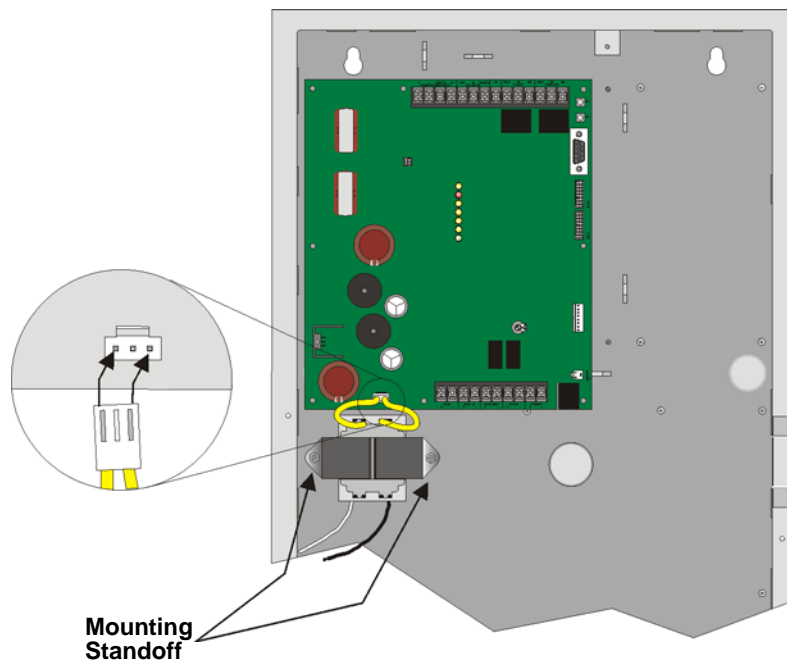

Figure 3-12 Transformer Mounting
3. Mount the transformer onto the cabinet standoffs with the supplied #6 nuts as shown in Figure 3-12.
- 5. Plug the transformer output to the AC connector on the control panel as shown in Figure 3-12.